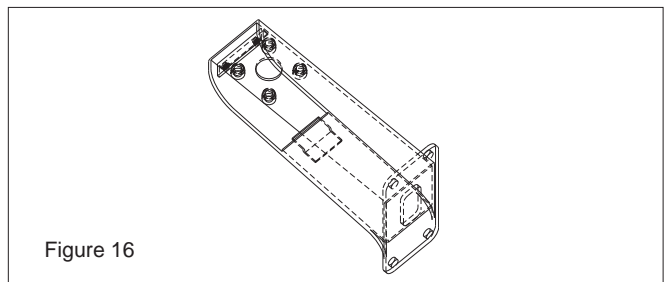

Figure 16
3. Run all incoming wiring through the hole in the back plate of the wall mount bracket, then up through the hole in the housing mounting surface (in between the (4) threaded inserts) (Figure 16).